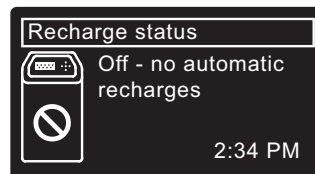

FIG. 45
6. Press the LEFT (◀) button (twice from the Recharge status screen) to return to the rolling status screens. If **Recharge off** was selected, the normal sequence of rolling screens will stop at the screen shown in Figure 45.